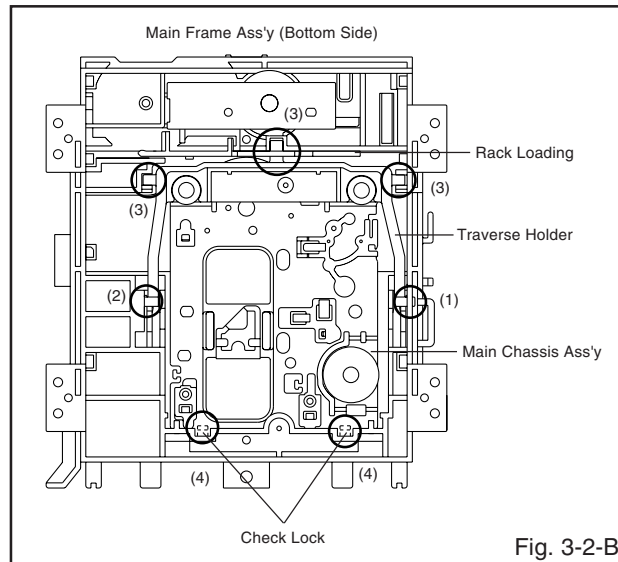

Fig. 3-2-B
1. In case of the Main Chassis Ass'y, install it from (1) to (4) in order. (Refer to Fig. 3-2-B)
2. In case of the Main Chassis Ass'y installation, hook the wire on the Main Frame Ass'y as shown Fig. 3-2-C.